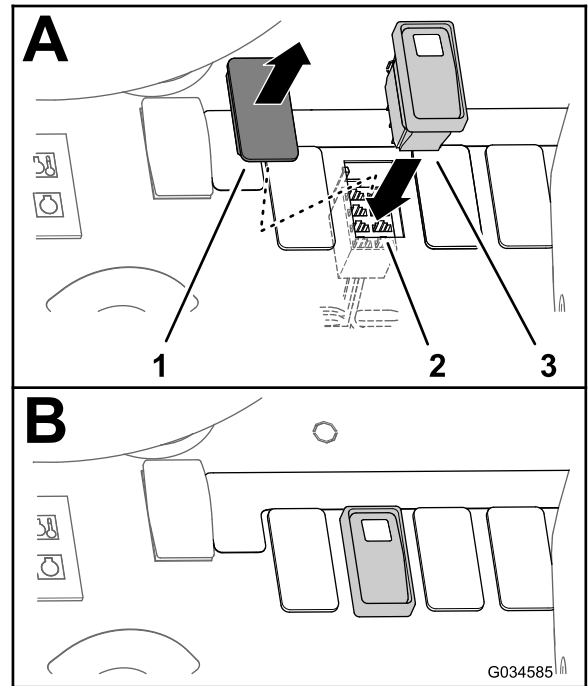
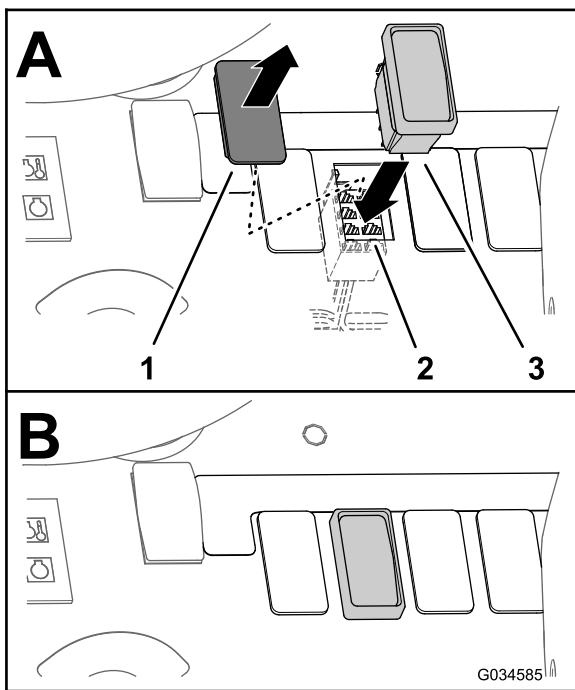

Figure 36
Figure 37
1. Remove the plug for the rinse tank switch from the dash panel (Figure 36 or Figure 37).
3. Route the 8-socket connector toward the open hole in the dash (Figure 36 or Figure 37).
4. Connect the 3-position switch into the 8-socket connector through the dash panel (Figure 36 or Figure 37).
5. Insert the 3-position switch into the opening in the dash panel until the latch of the switch snap securely into the dash (Figure 36 and Figure 37).